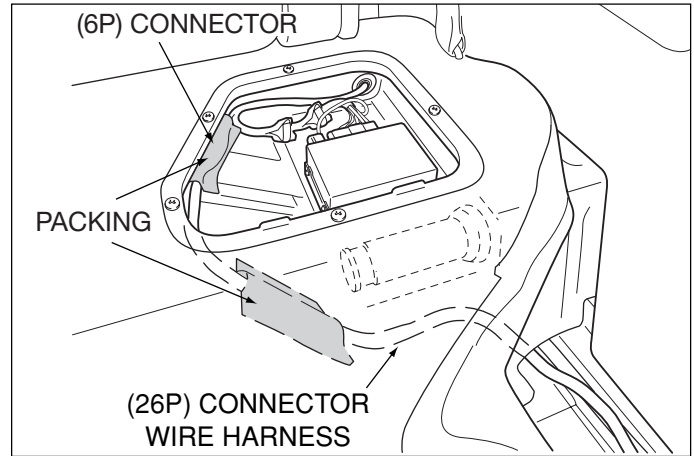

Fig. E7
- iii. Secure the wire harness and (6P) connector using 2 pieces of packing (foam tape). (Fig. E7)